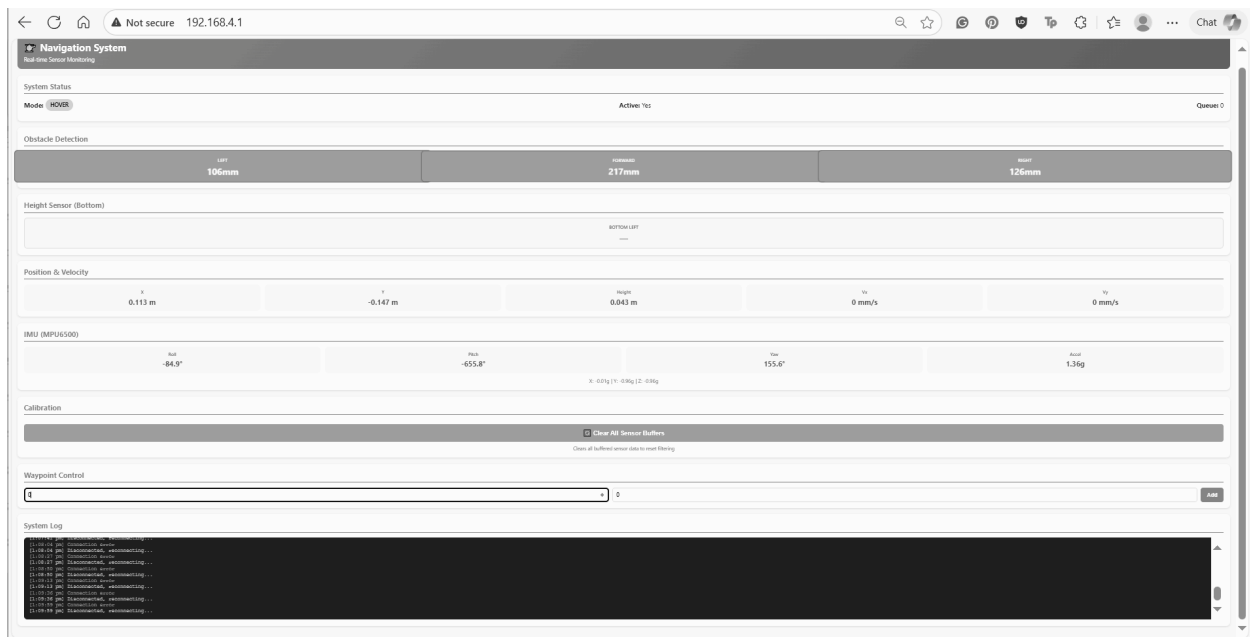

Figure 3 Drone Web UI
6. The drones web UI will now load on your device as shown in Figure 3.
The sensor readings output to the web UI as seen in Figure 3. When no obstacle is detected, the cells will display as green and system status mode will display “Navigation”. When a sensor detects an obstacle (sensor reads below 500mm) the respective cell will turn red, and the status mode will change to “Hover”.